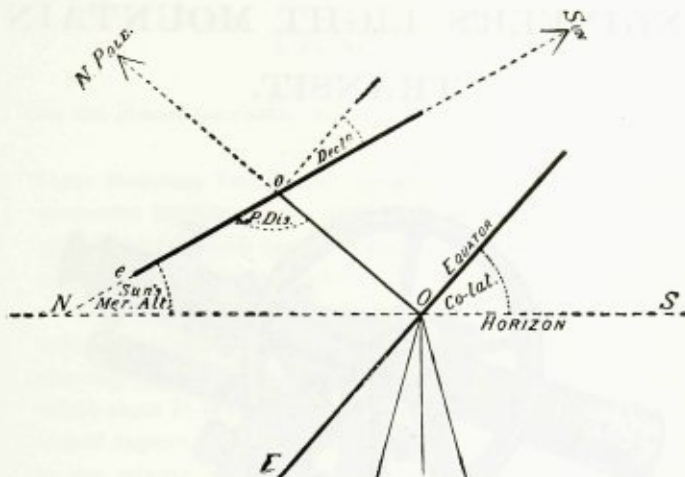

Fig. 3.
3. Without disturbing the relative positions of the two telescopes, elevate the transit telescope (and with it the solar) until the amount of the co-latitude is indicated by the vernier of the vertical limb. See Fig. 3.
Direct the transit telescope towards the south, incline it to an amount equal to the sun's meridian declination uncorrected for refraction, depressing the telescope if the declination is north and elevating it if it is south. Now bring the solar telescope into the vertical plane of the transit telescope and to a perfectly horizontal position by means of its level, then clamp it. A few minutes before noon (the moment of the sun's culmination) bring the sun's image between the two horizontal wires of the solar telescope by moving *only* the transit telescope in altitude and azimuth. By means of the tangent screws of the transit, keep the sun, as it continues to rise and travel southwards, in this position relatively to the cross hairs of the solar telescope. When it has ceased to rise, take the reading of the vertical arc of the transit, deduct from it the refraction due to this altitude, and the remainder is the co-latitude, which deducted from 90° gives the latitude. The position of the two telescopes is identical with that shown in Fig. 3.